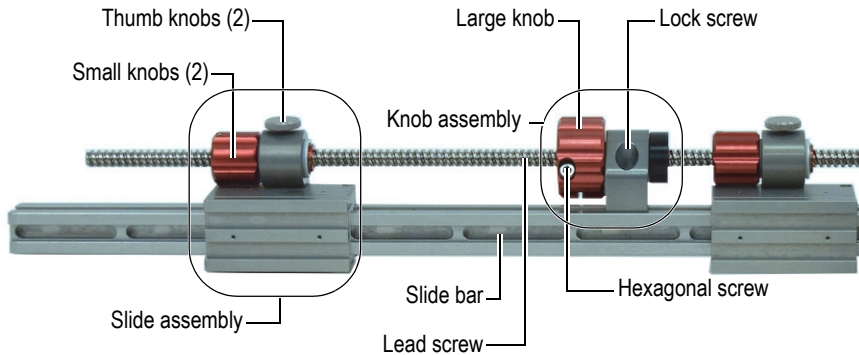

Figure 2-13 Replacing the slide bar and the lead screw
9. If required, reinstall the encoder assembly (see Figure 2-13 on page 46).